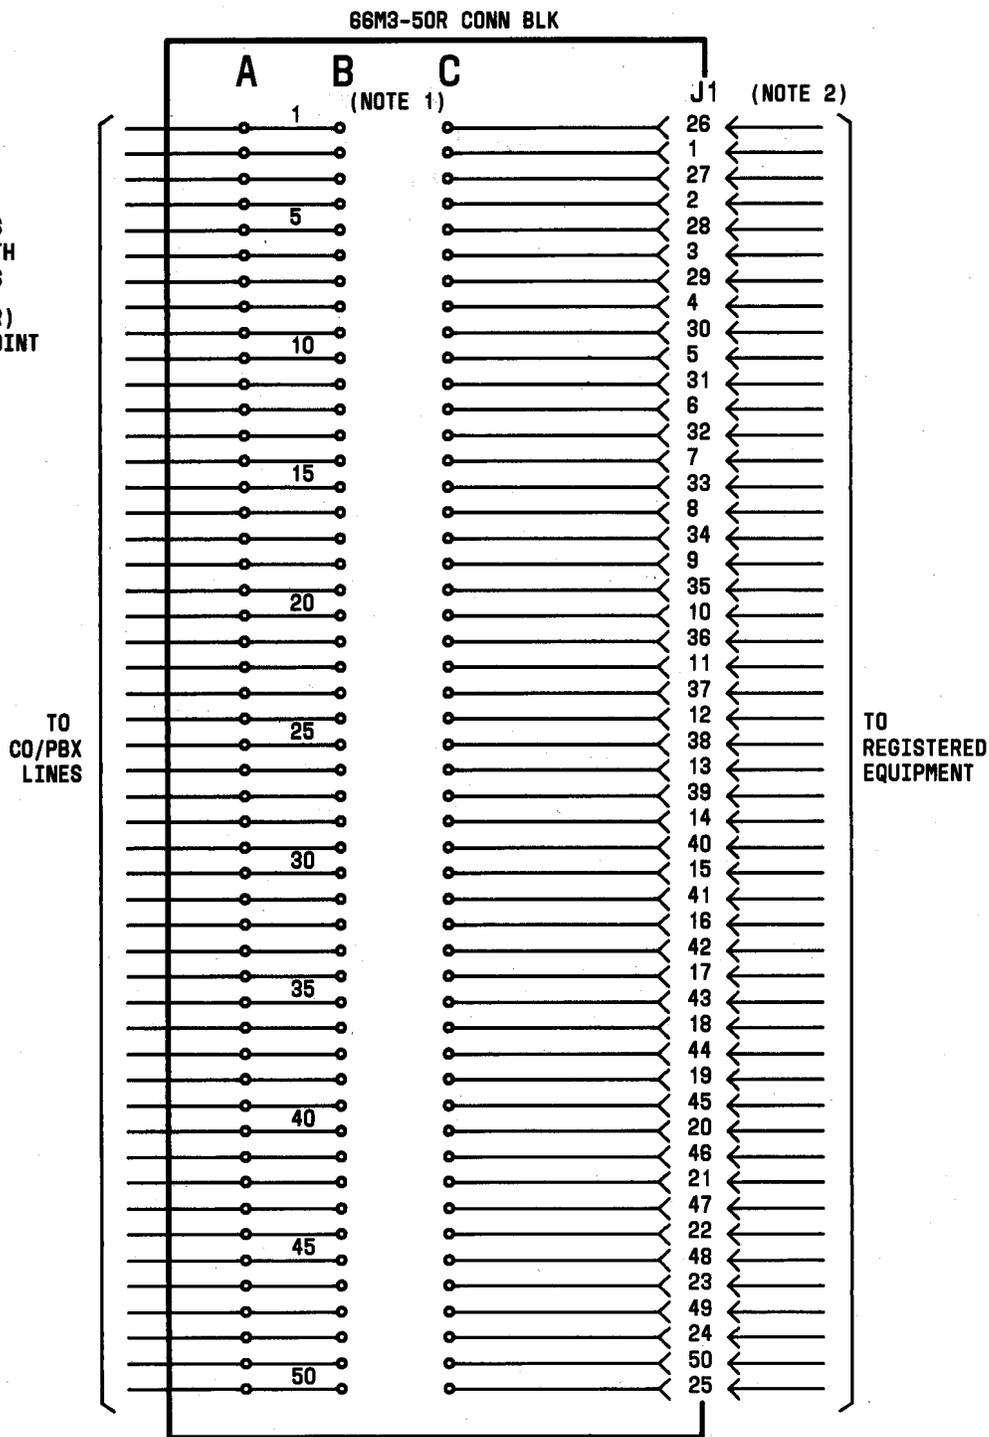

Fig. 2—66M3-50R Connecting Block Terminal Layout
2.03 The 66M3-50R and 66M4-50R connecting blocks (Fig. 2) consist of:
3.05 Provide CO/PBX lines by placing appropriate CO/PBX feeder cable, D station or cross-connect wire, to selected column A terminals (Fig. 2 or 3).